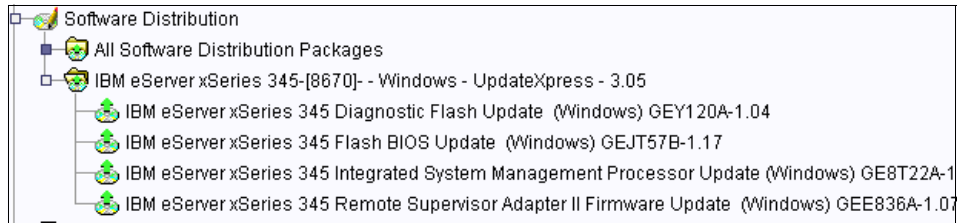

Figure 7-17 Firmware details for the x345
15. Expand the x345 tree and you will see the entries you selected in step 10 on page 262. See Figure 7-17. These can now be pushed to your managed systems and executed immediately or later using the IBM Director scheduler. Or execute the option now, once dragged onto your managed systems.